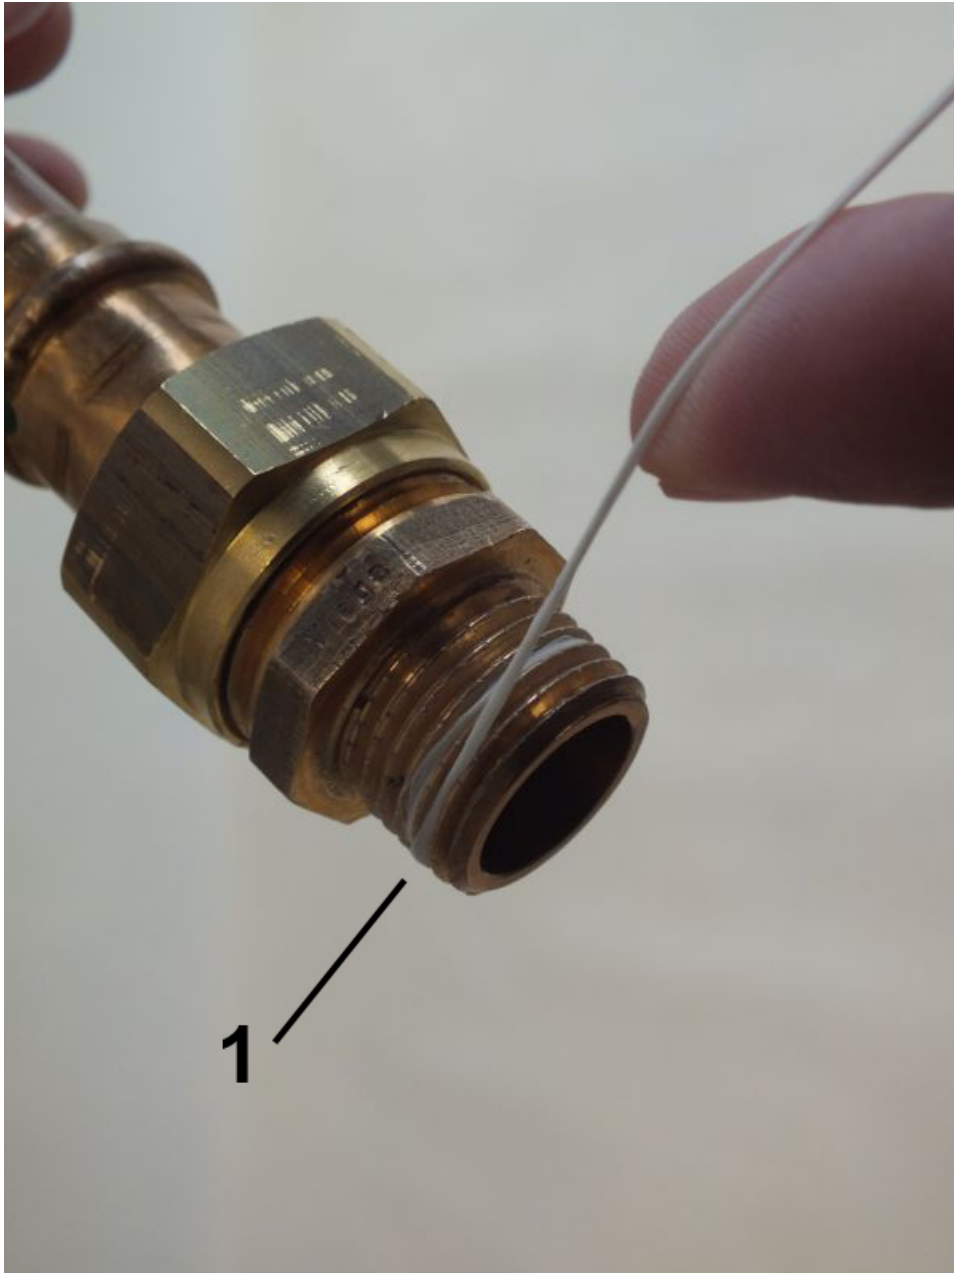

Fig. 10: Apply sealing thread
- 2.** Apply sealing thread (Fig. 10/1) to the napped area in the threaded direction. Observe the quantity recommended by the sealant manufacturer.